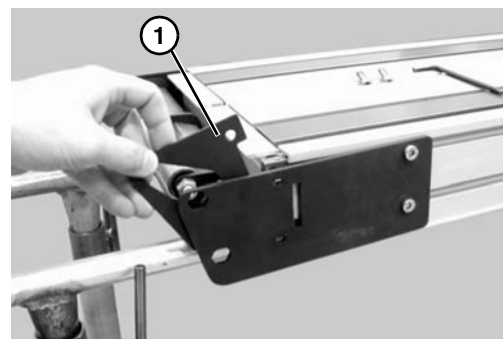

Figure 48
- Remove the inner spacer (**Figure 48, item 1**).